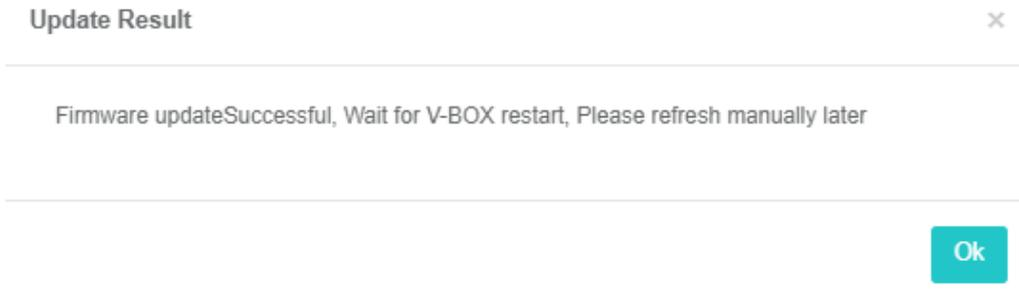

Figure 4-11
- 4) When updating completed, it will display information as shown in Figure 4-11;